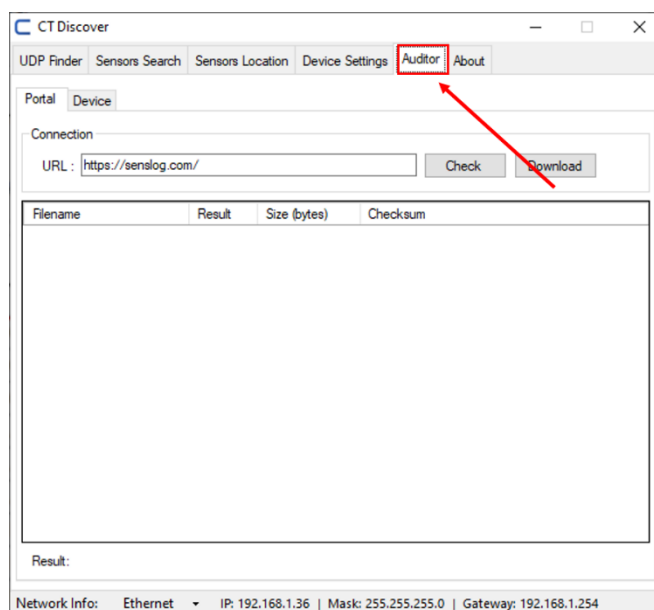

Figure 28 – CT Discover – “Auditor” tab
1. Go to “Auditor” tab (Figure 28).